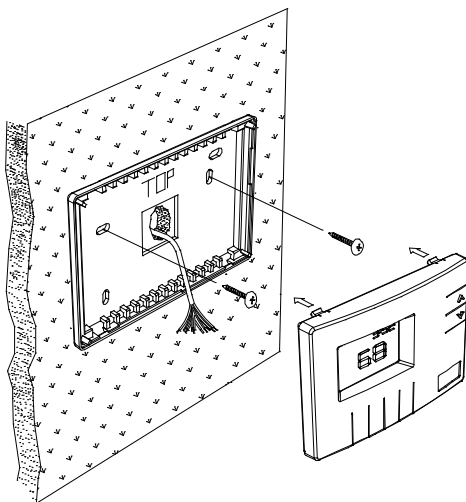

Figure 1 - *Mounting thermostat base*
5. Mount the base to the wall using the two #6 x 1/2" self-tapping screws supplied - See *Figure 1*.